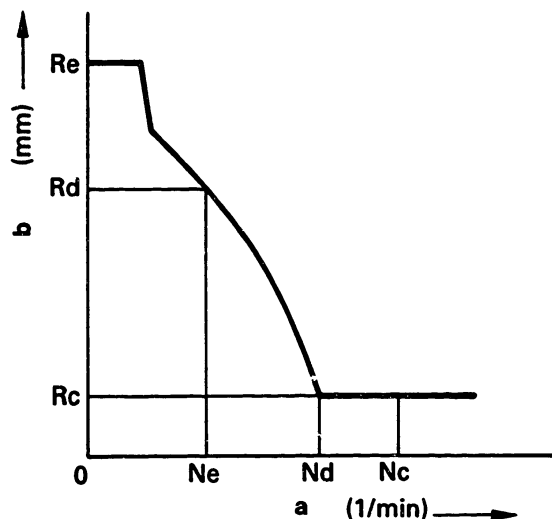

Fig. 81
4. Incorporate idling spring assembly (140) into tension lever. Screw in the assembly until control rack position corresponds with "Rd", and then lock it at this point, with a wrench (KDEP 2604). (Figs. 81 and 82)
5. Make sure control rack position remains above "Re" even when pump speed is decreased to 0 rpm. (Fig. 81)
6. Next, increase pump speed slowly and ensure that when control rack reaches position "Rc" the corresponding speed is "Nd" rpm. (Fig. 81)